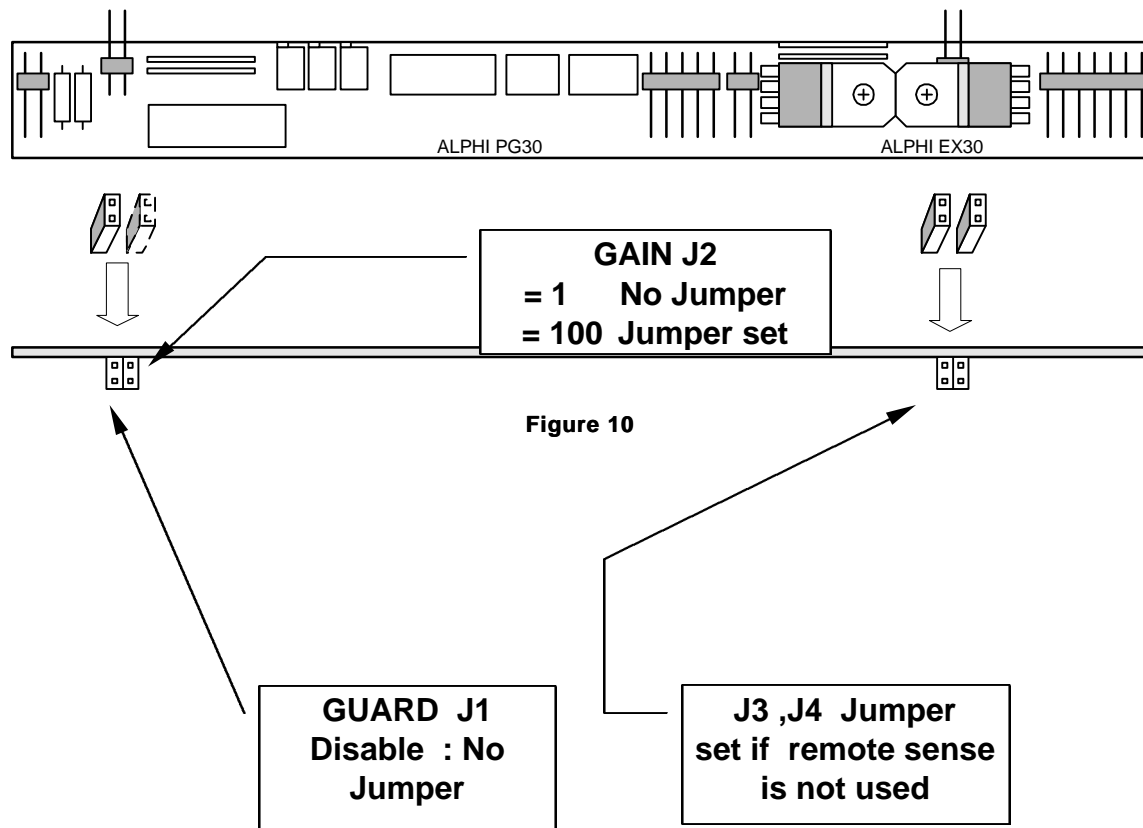

Figure 10
**Figure 10** shown below, illustrates the PGA module jumper locations:
**Figure 11** below depicts a function block diagram of the Bridge Excitation Module. The Excitation Module is a voltage power amplifier output that is controlled by a 16 bit D/A. The output voltage is proportional to the D/A output voltage. The maximum output is +/- 10 volts with a load of 200Ω. The load is floating between +10 and -10v. This allows the differential input signal of the load cell to be close to the zero volts. Remote sense lines can be enabled to compensate for voltage drop do to long cable connections. The return path can be connected at the level of the Excitation Module ( **J3, J4** ) or externally at the bridge transducer. Refer to **Figure 10** on the preceding page for the location of J3 and J4.